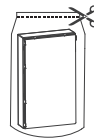

Fig.3
3. Take out the filter from polybag. (see fig.3)